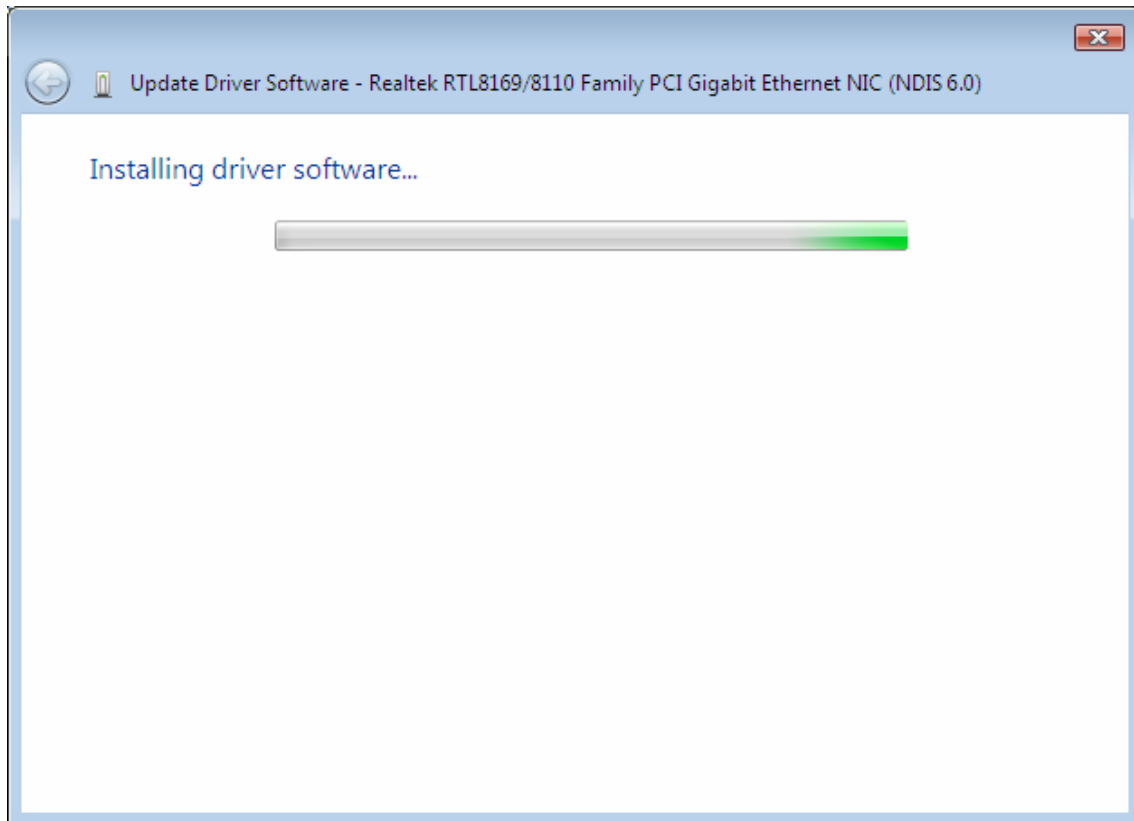

Figure 2-29
step 2. Select **Device Manager** as shown in Figure 2-29, then select **Continue** in the next screen.